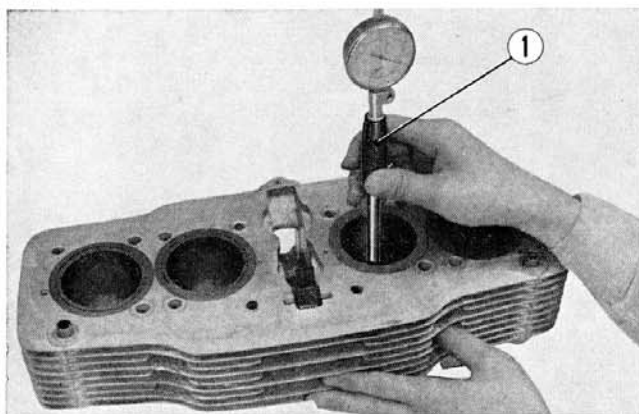

Fig. 3-59 ① Cylinder gauge
1. Measuring the cylinder bore, taper and out of round. (Fig. 3-59)